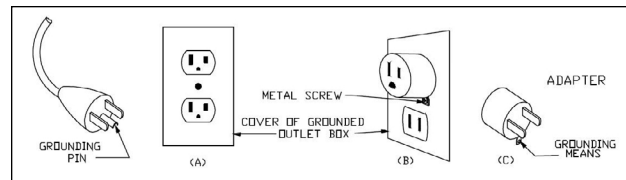

Figure 68.1
- This heater is for use with 120 volt electrical outlets. The cord has a plug as shown at A in Figure 68.1, below. An adapter as shown at C is available for connecting three-blade grounding-type plugs to two-slot receptacles. The green grounding lug extending from the adapter must be connected to a permanent ground such as a properly grounded outlet box. The adapter should not be used if a three-slot grounded receptacle is available.